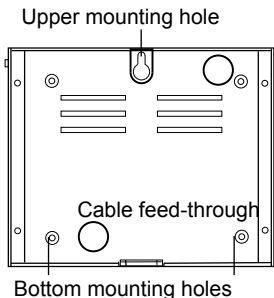
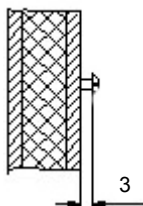

Fig. 10
Fig. 11
2. Insert one of the wood screws into the top center hole (Fig. 10). The control unit is hooked onto this screw. Therefore, leave the screw out by ca. 3 mm (Fig. 11).
Fasten the housing bottom at the two bottom openings (Fig. 10) firmly to the cabin wall